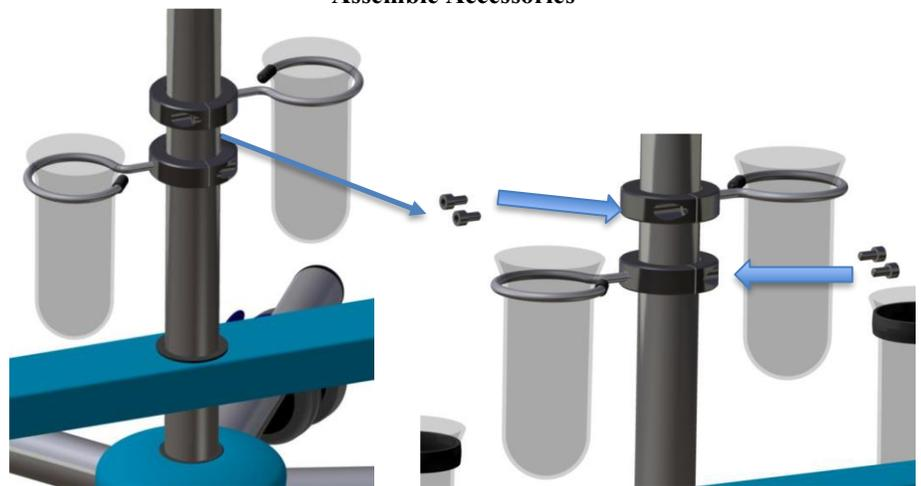

Figure 2
2. Carefully stand the pole up and loosen the “C” hook screws from the bracket. Slide the bracket down the middle pole close to the base and tighten to secure the pole. The opening of each hook should be facing opposite each other. (Fig. 2).